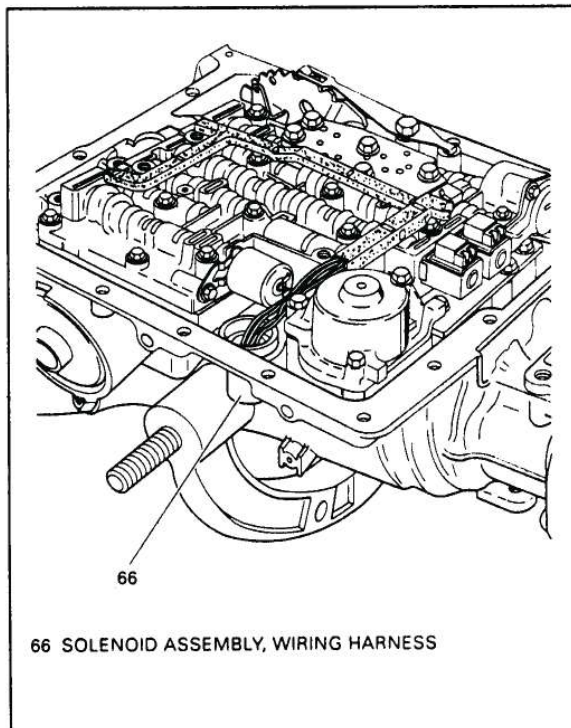

Figure 163
8. Install case connector into case bore as shown in Figure 163.
9. Route wiring harness as shown Figure 163, and install lock-up solenoid in oil pump bore.